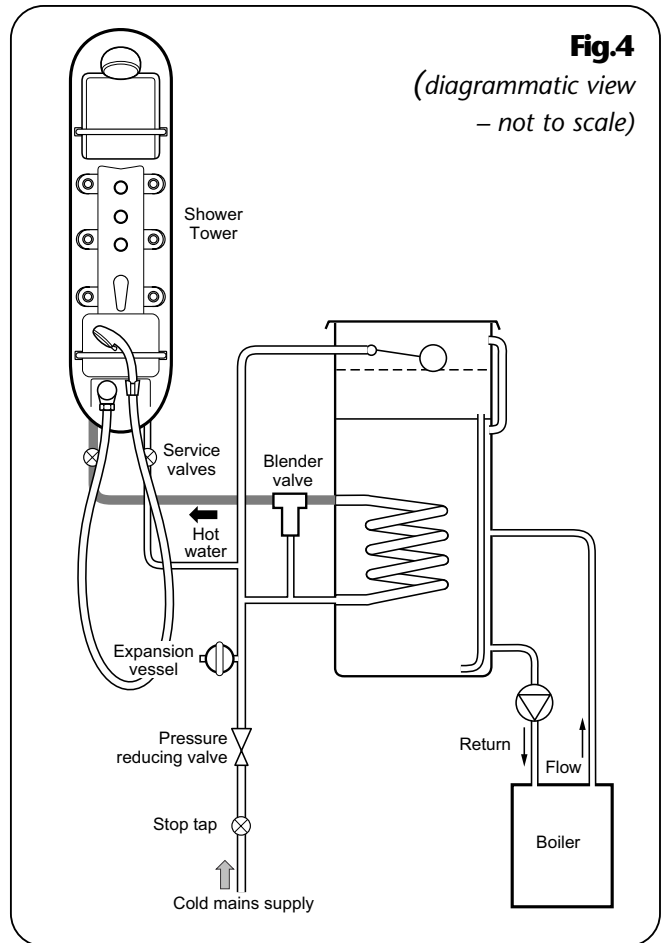

Fig.4
c) High output thermal store systems (fig.4)
An expansion vessel (0.16 litres) as shown in **Fig.4**, MUST be fitted and regularly maintained, to ensure the unit is not damaged by excess pressures. This may already be installed externally or internally within the thermal store (check with thermal store manufacturer).